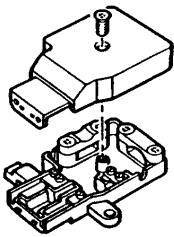

Fig. 23
3. Remove the screw and cover from the socket (Fig. 23).